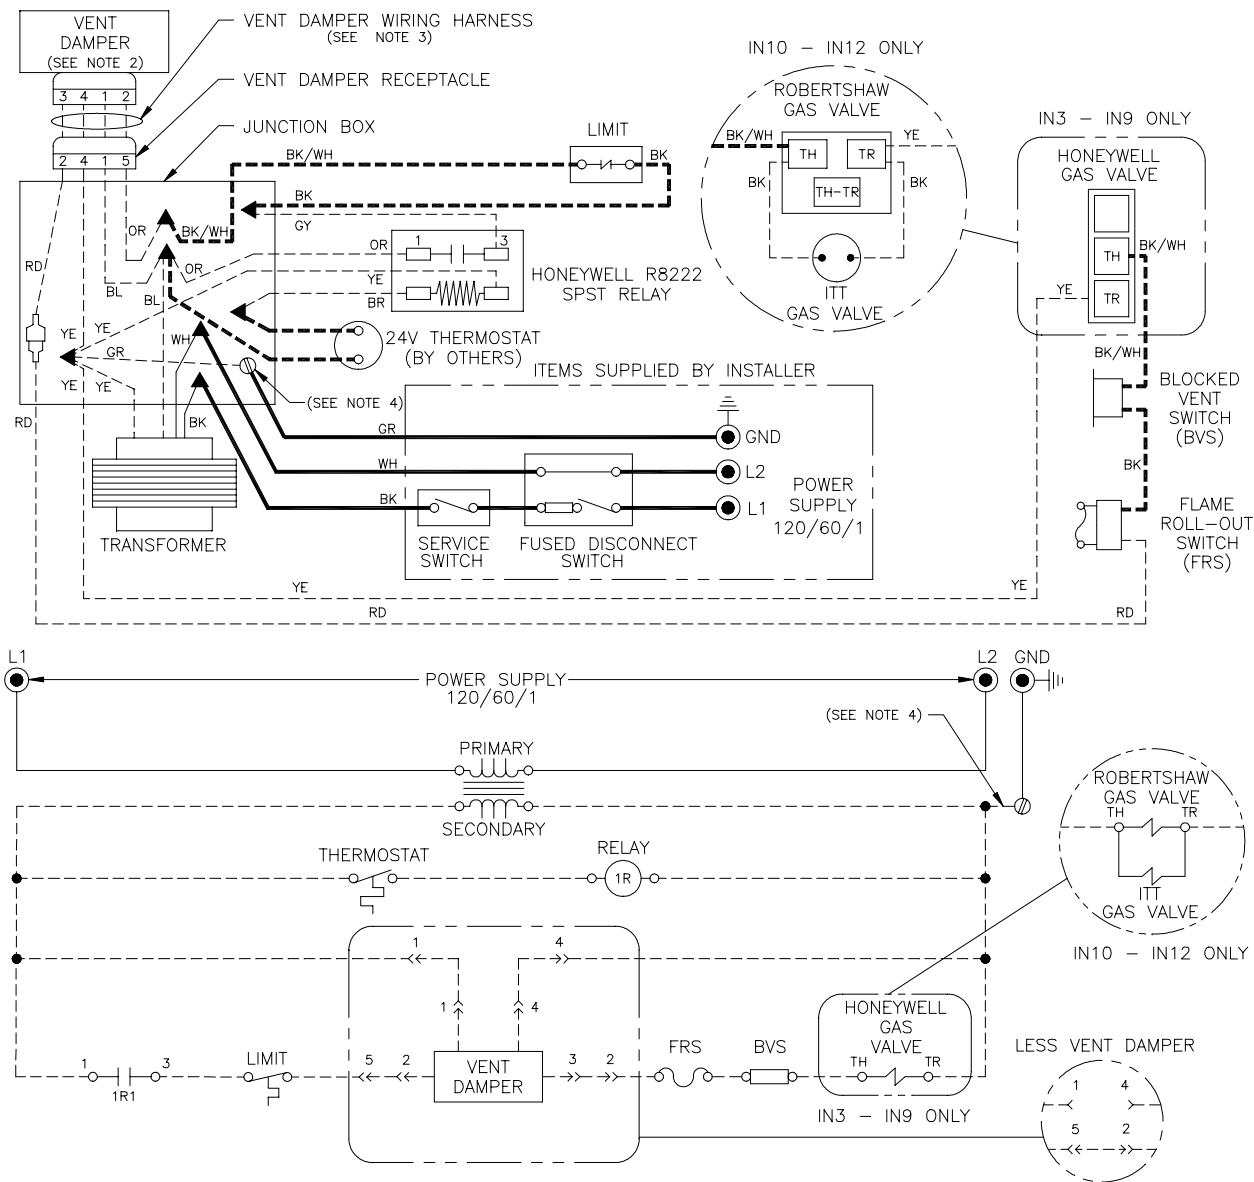

Figure 44: Wiring Diagrams, Water, Continuous Ignition (Standing Pilot), Gravity Circulation
Q. Water Boiler with Continuous Ignition (Standing Pilot) and Gravity Circulation. See Figure 44.